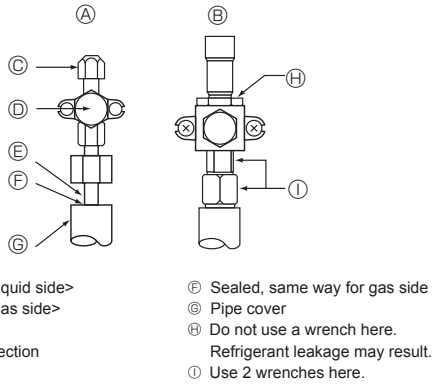

Fig. 4-5
4.4. Refrigerant pipe airtight testing method (Fig.4-5)